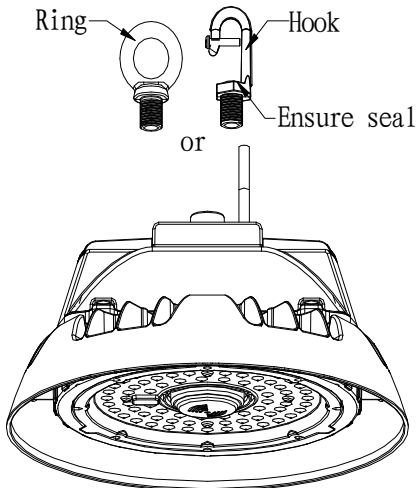

Fig. 1
1. Find the accessories as Fig. 1 shows from bags. (Hook: Hook the middle hole to ensure seal)